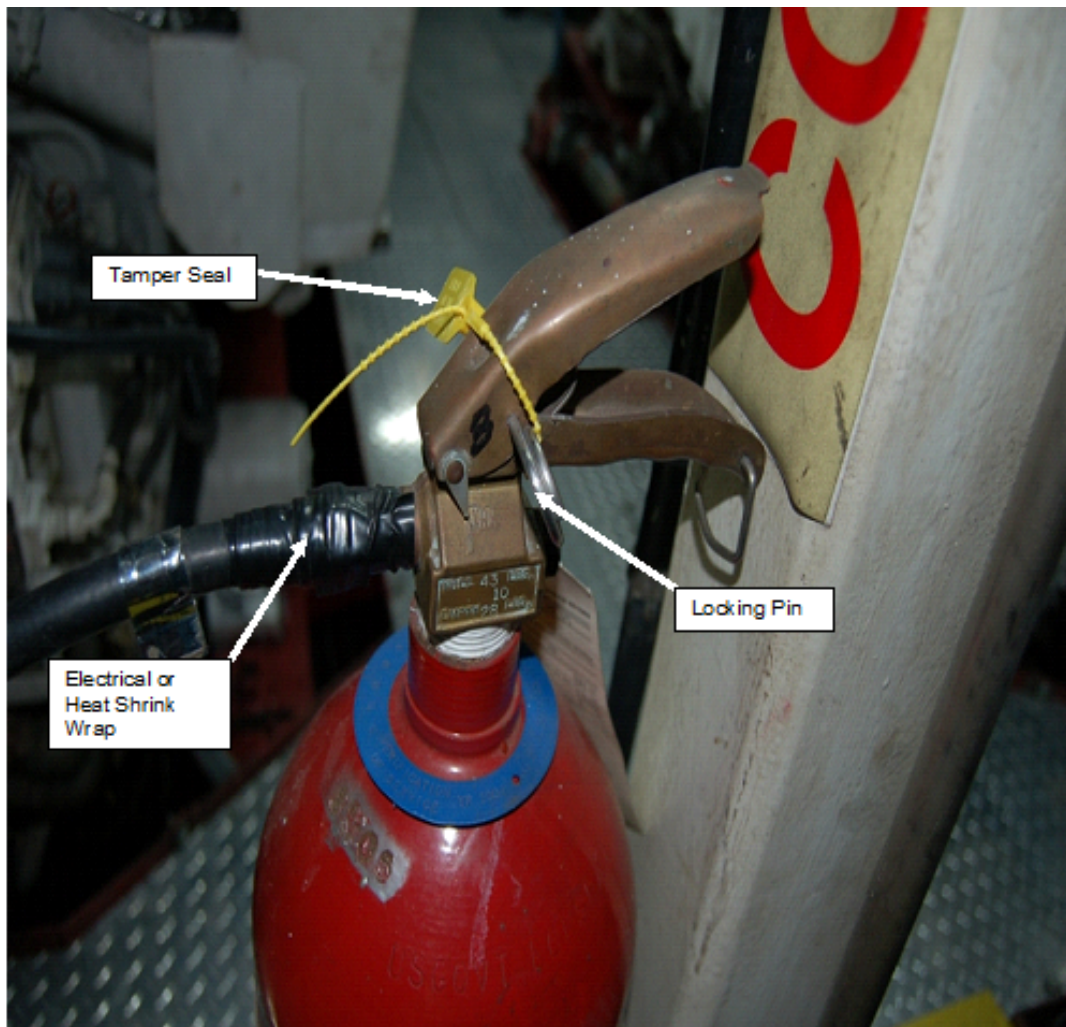

Figure 551-88L-2049_08
- (4) Contact the appropriate local maintenance facility, making arrangements for the servicing of each extinguisher.
- (5) Remove hose and horn from each extinguisher, also remove each horn retaining belly band. Store horn/hose and belly band in a secure location for reuse when extinguishers return from service.
- (6) Deliver and pick up extinguishers from local maintenance facility.
- (7) Upon the return of extinguishers from local maintenance facility monthly inspection items 1 and 2 must be completed for each extinguisher hydrostatically tested prior to placing extinguisher back on station.
- (8) Record date and weight on extinguisher's inspection card.
- (9) Reinstall horn, hose, and belly band onto each extinguisher.
- (10) Wrap a length of electrical tape or heat shrink around metal hose connection at horn and valve, (refer to Figure 551-88L-2049_08).